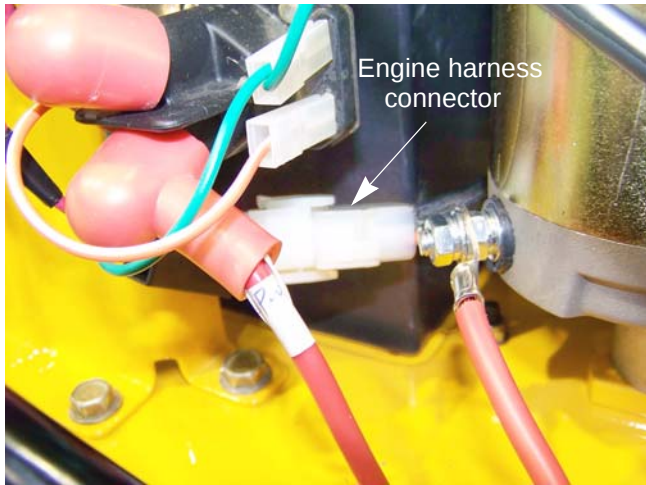

Figure 6.37
1. Locate the connection between the engine harness and the main harness of the machine. See Figure 6.37.